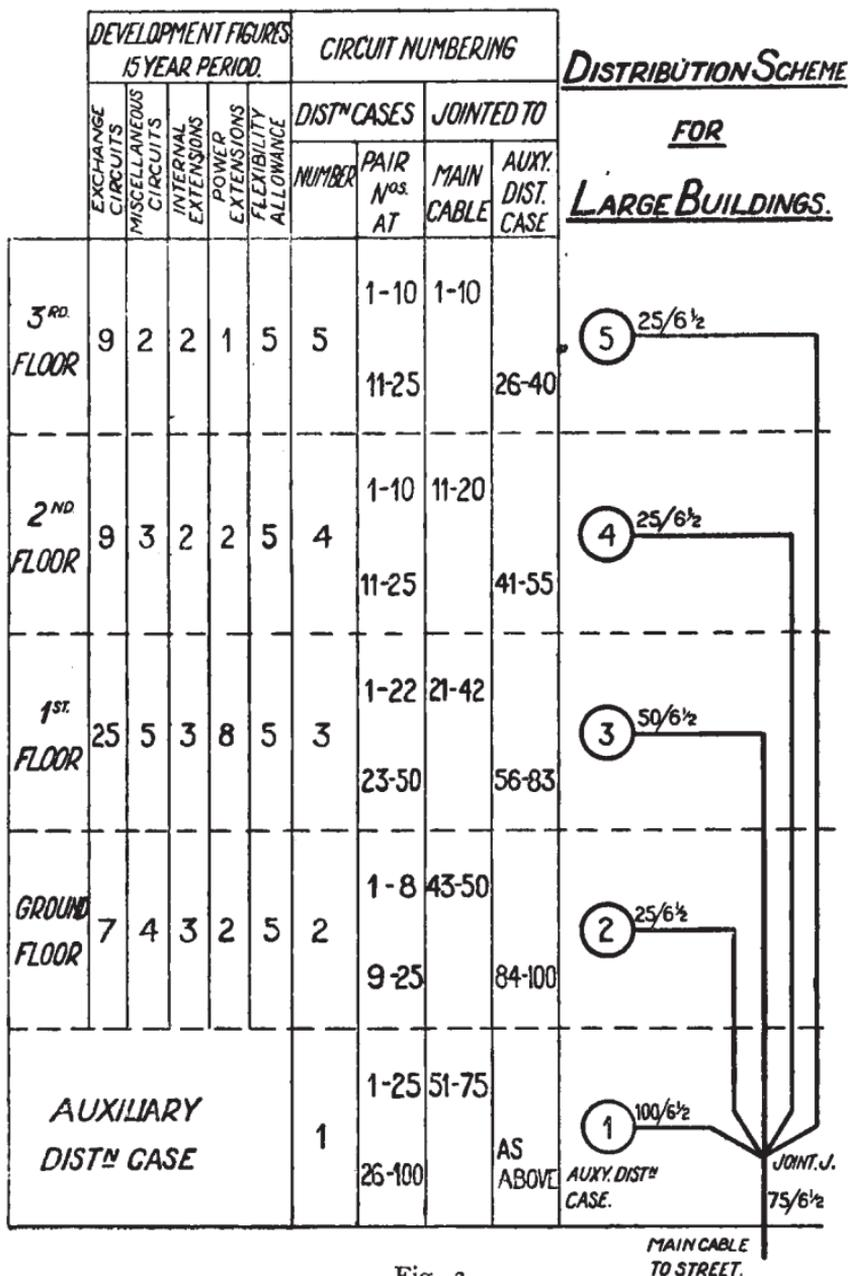

Fig. 3.
*Class 3.* - In large multiple office buildings where there are a considerable number of subscribers on each floor, one or more distribution cases is fitted on each floor, and cables are run from these to the main exchange cable system in the street. The size of the distribution case and the number of cable pairs connected between it and the main exchange depend on the estimated development on each floor. Fig. 3 shows a typical lay-out for a large building, together with the estimated development figures.